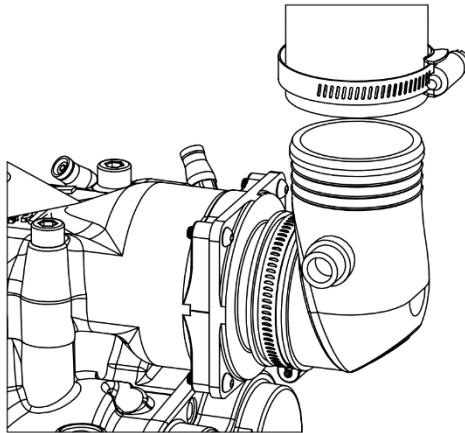

Figure 3 - Optional Elbow Installation (Part # 1700661/662)
- 90 degree M-F elbows are not included but available if needed for either the filter or compressor end of the hose. 2" elbow is part number 1700661, 2.5" elbow part number is 1700662. See Figure 3 for illustration.